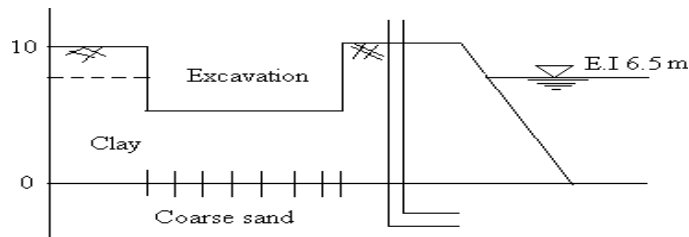

Fig.1
7. A foundation trench is to be excavated in a stratum of stiff clay, 10m thick, underlain by a bed of coarse sand (fig.1.). In a trial borehole the ground water was observed to rise to an elevation of 3.5m below ground surface. Determine the depth upto which an excavation can be safely carried out without the danger of the bottom becoming unstable under the artesian pressure in the sand stratum. The specific gravity of clay particles is 2.75 and the void ratio is 0.8. if excavation is to be carried out safely to a depth of 8m, how much should the water table be lowered in the vicinity of the trench?